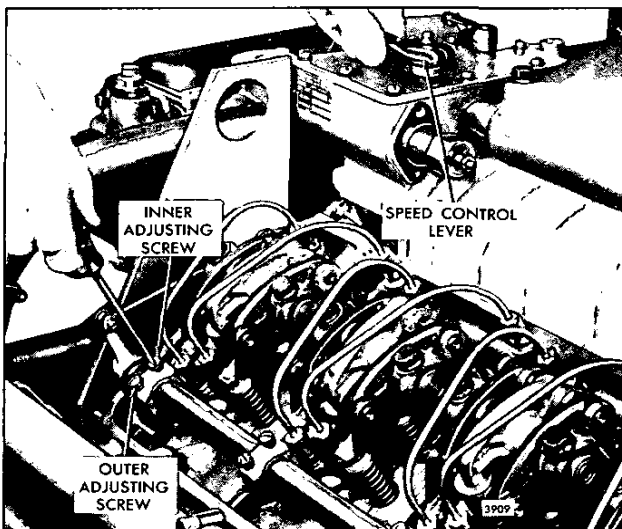

Fig. 13 – Positioning No. 1L Injector Rack Control Lever
6. Move the speed control lever to the *full-fuel* position and hold it in that position with light finger pressure. Turn the inner adjusting screw of the No. 1L injector rack control lever down (Fig. 13) until a slight movement of the control tube lever is observed or a step-up in effort to turn the screwdriver is noted. This will place the No. 1L injector in the *full-fuel* position. Turn down the outer adjusting screw until it bottoms lightly on the injector control tube. Then alternately
The internal starting aid screw is threaded into the governor gap adjusting screw (Fig. 13). This screw is adjusted to position the injector racks at less than *full-fuel* when the governor speed control lever is in the *idle* position. The reduced fuel makes starting easier and reduces the amount of smoke on start-up.